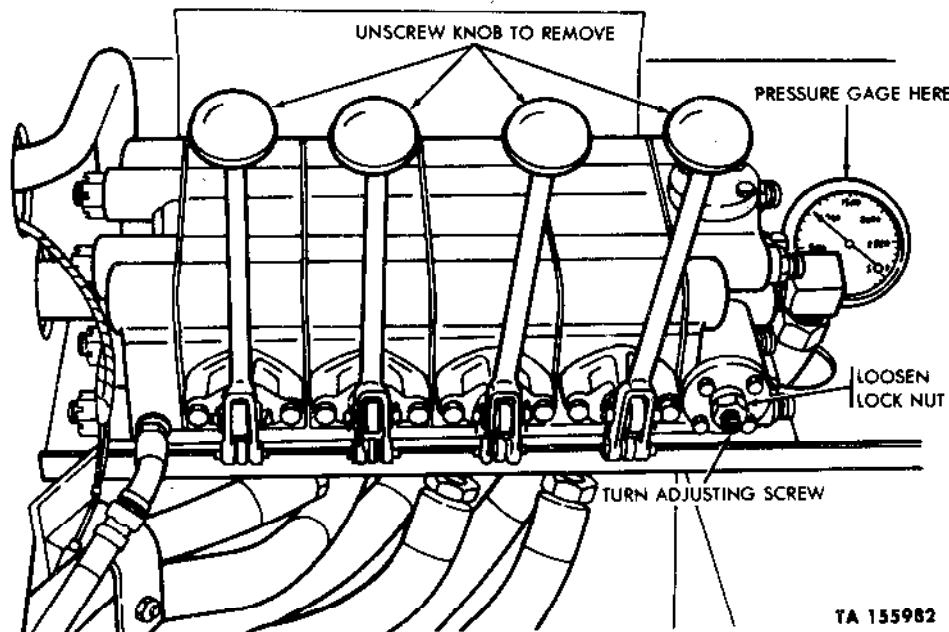

Figure 2-252. Relief valve adjustment.
(1) Remove pipe plug from the control valve bank, and install hydraulic pressure gage (2, fig. 2-4) as shown in figure 2-252.
(2) Lower hoist cable to the ground to prevent fouling of the hoist cable block with the boom sheaves while testing the relief valve setting.
(3) With boom fully extended, move control lever to the extended position, and hold it there.
(4) While holding control lever in the extended position, observe pressure indicated on hydraulic pressure gage.
(5) The pressure indicated on gage is pressure at which the relief valve is opening. If gage indicates an incorrect relief valve setting (more or less than 1,210 to 1,215 psi) adjust relief valve as described in *c* below.
(1) Loosen locknut on adjusting screw (figure 2-252).
(2) Turn adjusting screw as required to obtain correct relief valve setting of 1,210 to 1,215 psi.